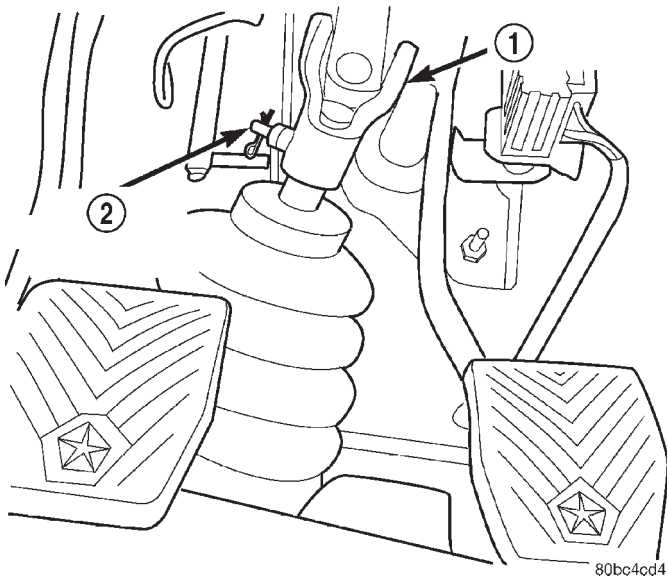

Fig. 11 Steering Shaft Coupler Pinch Bolt
- (6) Using the heel of both hands, lift up to unclip and remove the instrument panel top cover.
- (7) Unclip and remove the instrument cluster bezel.
- (8) Remove the (2) screws retaining the lower steering column cover and remove the cover from the vehicle.
- (9) Remove the (2) screws retaining the steering column shroud and remove the shroud from the vehicle.
- (10) Disconnect the clockspring, wiper / washer, multi-function, ignition and if equipped, the two skim module connections and the shift interlock cable on automatic transaxle equipped vehicles.
- (11) Remove the steering shaft coupler pinch bolt retaining pin (Fig. 11).
- (12) Remove the steering shaft coupler pinch bolt (Fig. 11) and separate the shafts by pulling them straight apart.
- (13) Remove the (4) steering column retaining nuts and remove the column from the vehicle.
- (14) Pull back the weather-stripping and remove the right and left side lower kick panels.